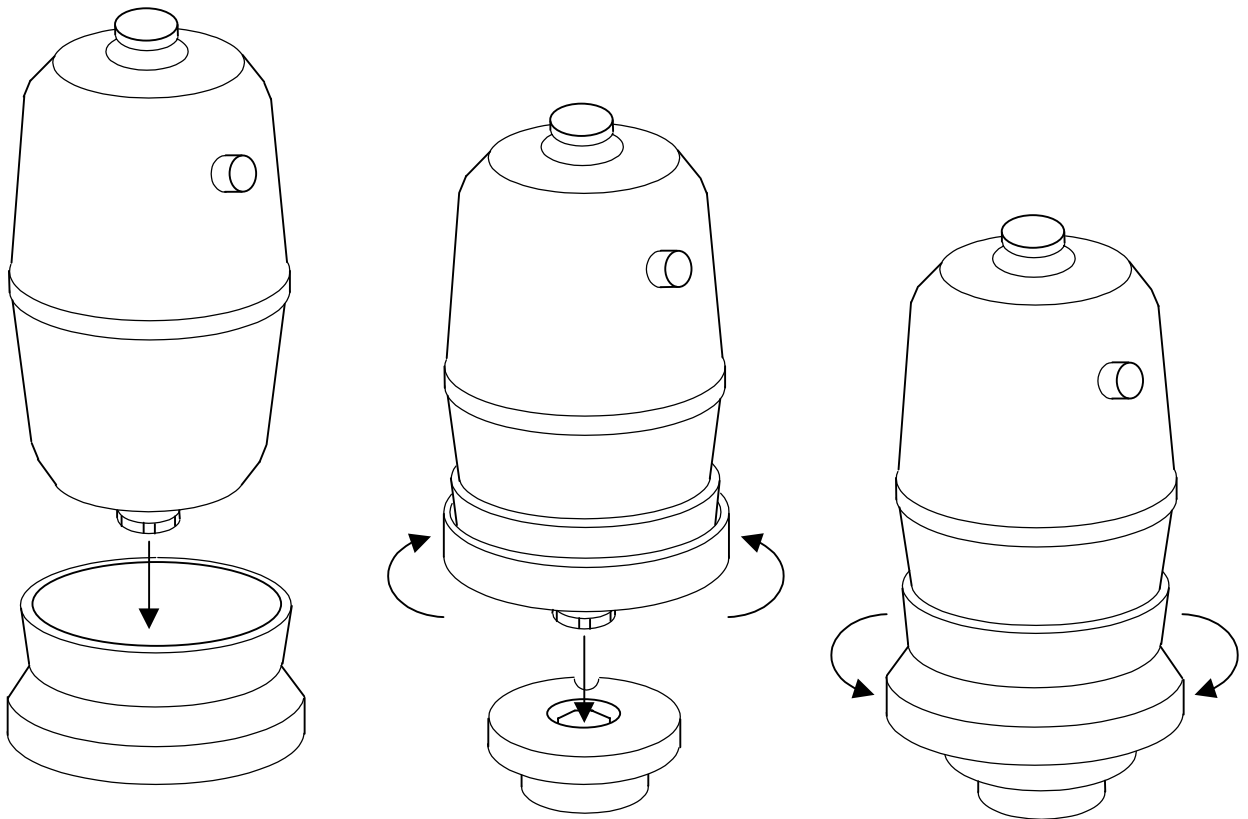

Figure 5-5: MTX Load Cell Installation
5. Install an MTX load cell and boot as described below (see Figure 5-5):